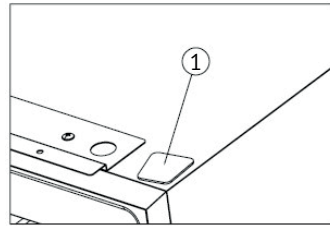

Figure 4
➔ Install the germinal lid (1) (Figure 4).